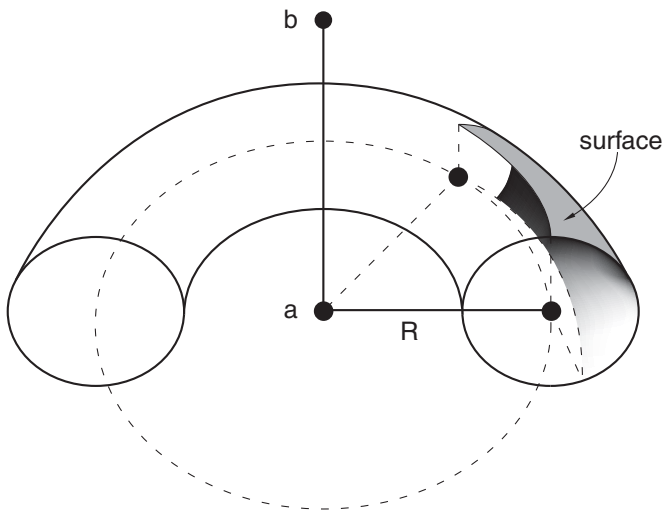

Figure 4: Three-dimensional toroidal smoothing.
Data line to define smoothing on regions of surfaces that correspond (or nearly correspond) to a toroidal surface (see Figure 4):
4. Global X-coordinate of point a on the approximate axis of revolution for the surface (see Figure 4).
7. Global X-coordinate of point b on the approximate axis of revolution for the surface (see Figure 4).
10. Distance R of the center of the circular arc from the axis of revolution (see Figure 4).